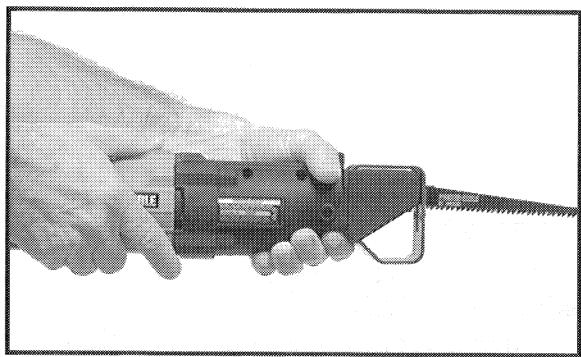

Fig. 4
1. ALWAYS hold saw as shown in Fig. 4 to prevent accidental electric shock resulting from cutting a live wire when sawing into a wall or other blind area.
THE SAW MUST BE HELD AS SHOWN IN FIG. 4.**
WARNING: Exercise extreme caution when blind cutting to be certain there are no foreign objects, such as electrical wires, conduit, plumbing pipes, etc., that may come in contact with the blade. BE CERTAIN THAT THE SAW IS HELD AS SHOWN IN FIG. 4.